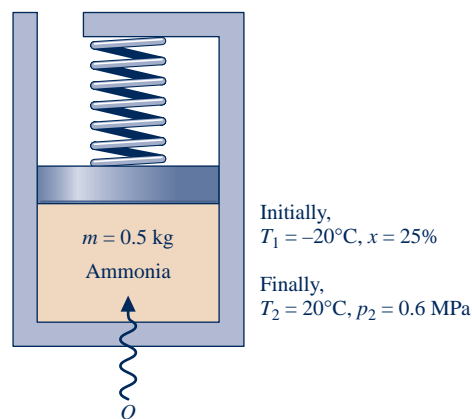

Fig. P3.84
3.84 As shown in Fig. P3.84, 0.5 kg of ammonia is contained in a piston–cylinder assembly, initially at $T_1 = -20^\circ\text{C}$ and a quality of 25%. As the ammonia is slowly heated to a final state, where $T_2 = 20^\circ\text{C}$, $p_2 = 0.6 \text{ MPa}$, its pressure varies linearly with specific volume. There are no significant kinetic and potential energy effects. For the ammonia, (a) show the process on a sketch of the p – v diagram and (b) evaluate the work and heat transfer, each in kJ.